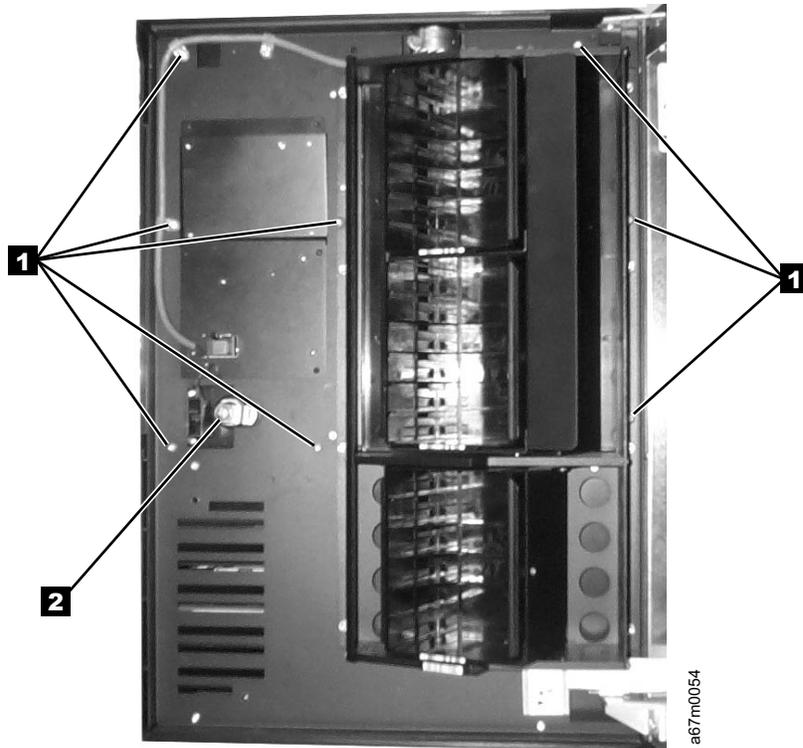

Figure 7-47. Plastic Top Door Removal and Replacement
See Figure 7-47 for locations of components in the following procedure.
4. The Plastic Top Door attaches to the door frame with eight screws **1**. Remove these screws shown in Figure 7-47.